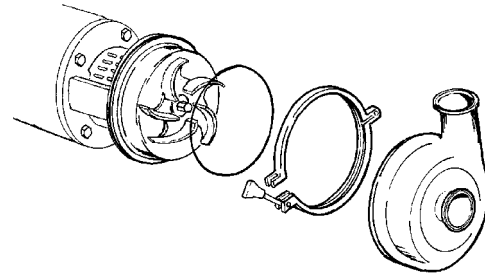

Figure 13 - Install Casing
18. Install casing O-ring on backplate and clamp casing in place. (Figure 13).